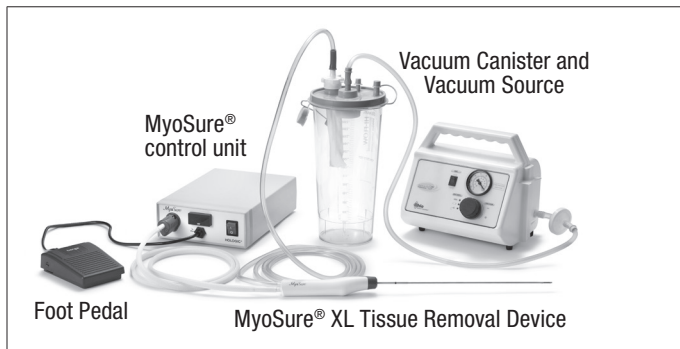

FIGURE 2. SYSTEM CONFIGURATION
1. Review the System Configuration Diagram in Figure 2 for set-up outline.